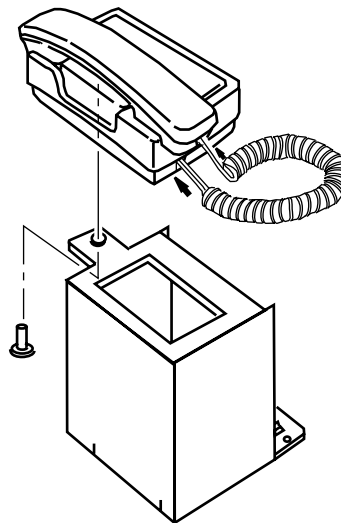

Figure 2.20
- (5) After installing the cradle assembly to the telephone set, fix the screw like Figure 2.20.